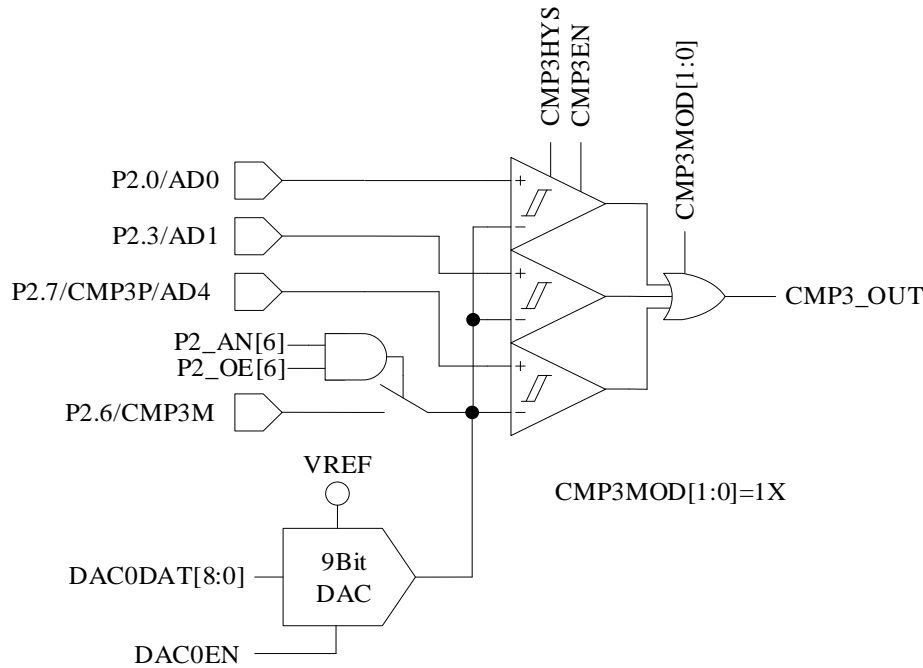

Figure 29-4 Triple-comparator Input Mode (CMP_CR1[CMP3MOD] = 1X)
- When CMP_CR1[CMP3MOD] = 1X, CMP3 works in triple-comparator input mode. The connection of input and output pins are as shown in Figure 29-4.